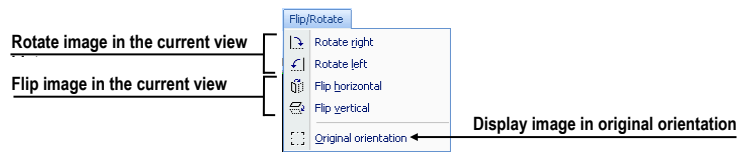

Figure 40 – Flip/ Rotate menu
- **Flip/Rotate** – flipping and rotating the image in the current view (see Figure 40).